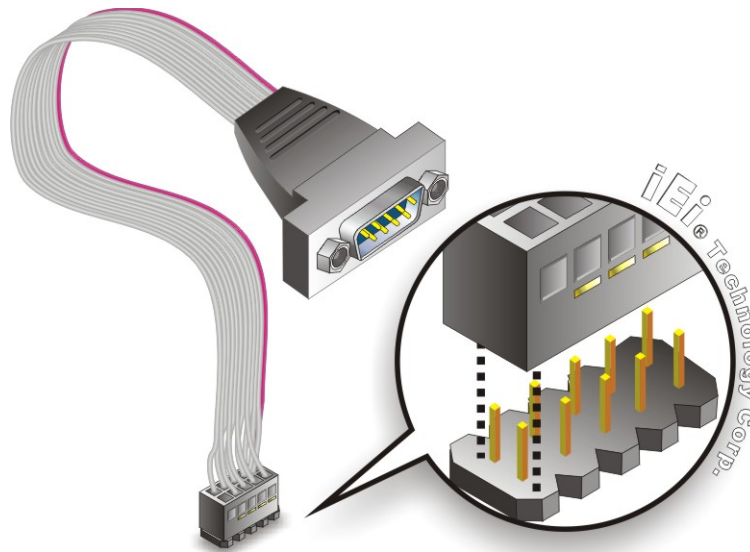

Figure 4-18: Single RS-232 Cable Installation
Step 2: Insert the cable connector. Insert the connector into the serial port box header. See Figure 4-18. A key on the front of the cable connectors ensures the connector can only be installed in one direction.